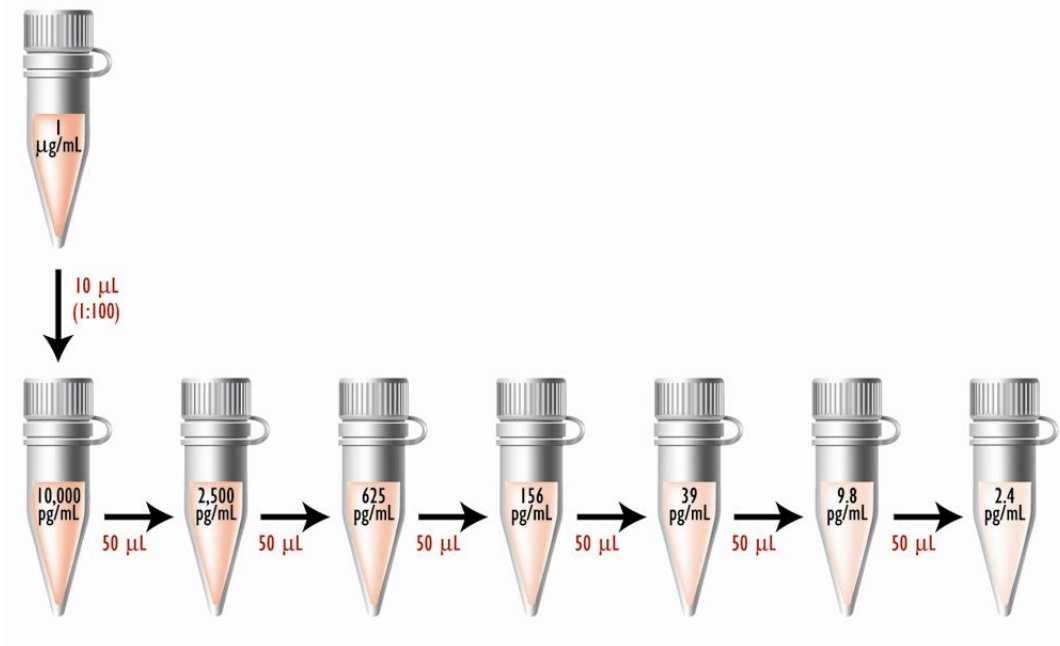

Figure 3. Calibration curve preparation from stock solution (1 $\mu\text{g/mL}$).
2. **Addition of Sample or Calibrator:** Dispense 25 μ L of each Calibrator or Sample Solution into a separate well of the MSD plate. Figure 3 illustrates one plate arrangement of calibrator solutions that can be used to evaluate the performance of the assay. Seal the plate with an adhesive plate seal and incubate for 1 to 2 hours with vigorous shaking (300-1000 rpm) at room temperature. In general, shaking the plate results in better mixing and more rapid binding of the sample to the capture antibodies. If a protocol without shaking is preferred, a longer incubation time (4 hours or longer) may be required to achieve the same sensitivity.